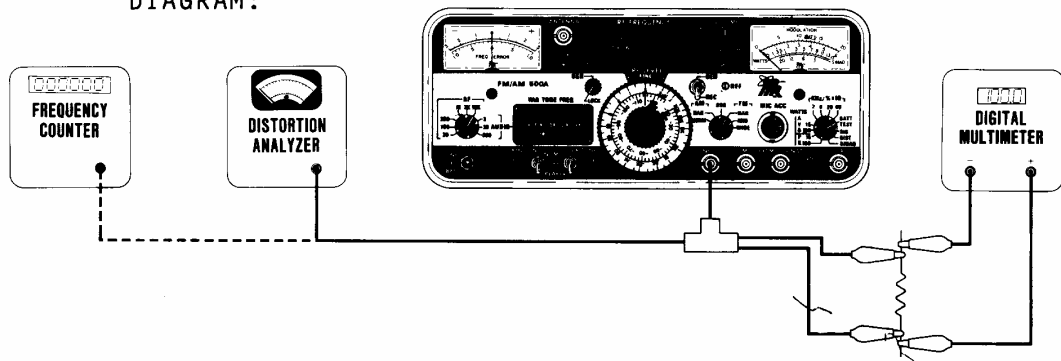

Figure 3-1 1 kHz Tone Generator Lab Test Set-Up
1.	Connect FM/AM-500A to accessory test equipment as shown in Figure 3-1.
2.	Set Power Switch (17) in "LINE" position. Verify LOCK Lamp illumination is steady.
4.	Rotate 1 kHz TONE Level Control (16) ccw until DMM indicates 2.50 VRMS.